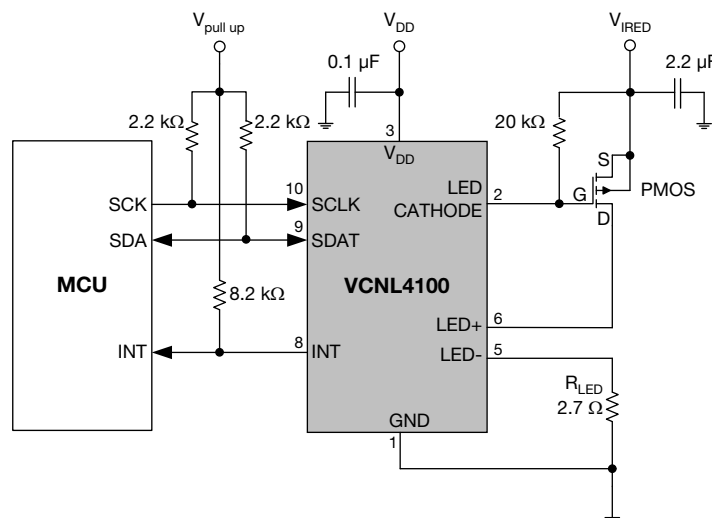

Fig. 10 - Application Diagram
- (1) Light source: white LED
- (2) Maximum detection range to ambient light can be determined by ALS refresh time adjustment. Refer to table 17 “ALS Resolution and Maximum Detection Range”
- (3) Based on IRED on / off duty ratio = 1/5120, 1/640, 1/80, and 1/20. The circuitry should use an external MOSFET as shown with fig.10. Please see also the Application Note “Designing the VCNL4100 into an Application” (www.vishay.com/doc?84361).